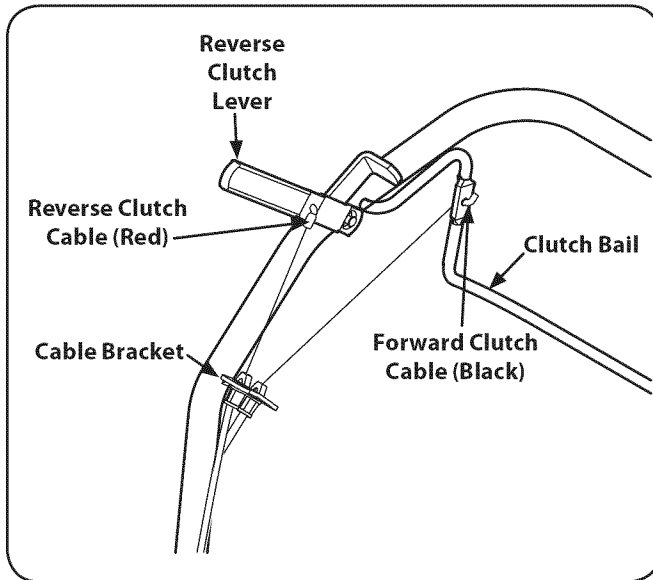

Figure 3-4
5. Carefully unwrap the reverse clutch cable (Red) from its shipping position. Pull the cable up through the top hole in the cable bracket and push the cable connector up through the hole in the bracket until the groove in the connector snaps into place. See Fig. 3-4.
2. Place the Z-connector into the hole in the reverse clutch control. See Fig. 3-4.
1. Carefully unwrap the forward clutch cable (Black) from its shipping position. Pull the cable up through the bottom hole of the cable bracket and push the cable connector up through the hole in the bracket until the groove in the connector snaps into place. See Fig. 3-4.
2. Place the Z-connector into the hole in the forward clutch bail. See Fig. 3-4.